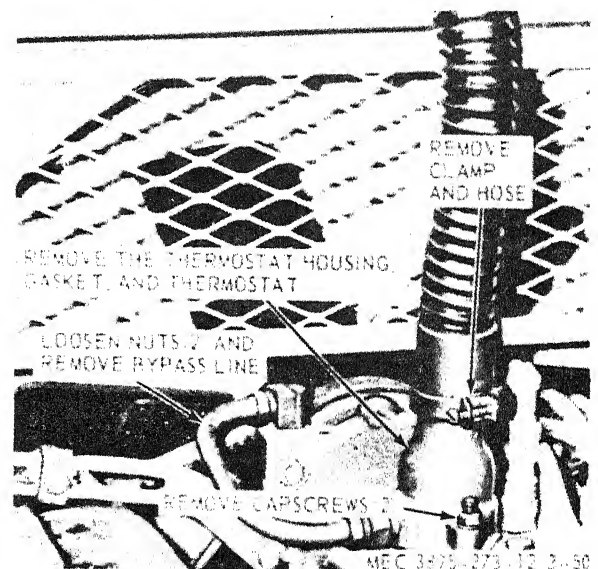
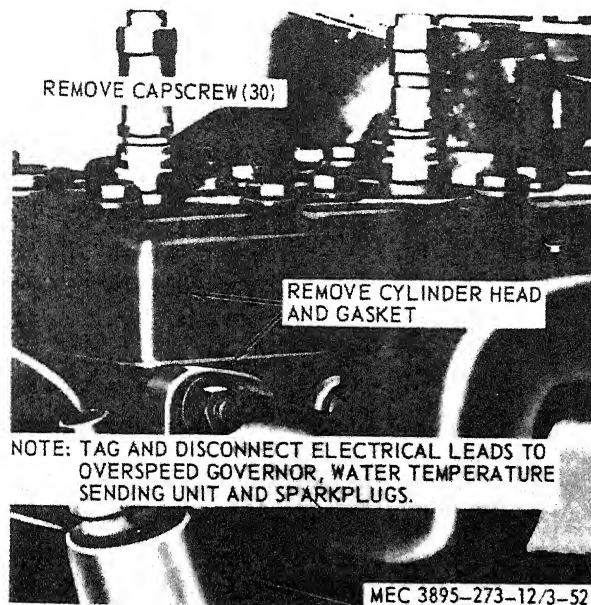

Figure 3-47. Thermostat and thermostat housing, removal and installation.
Figure 3-49. Cylinder head, removal and installation.
a. *Removal.* Remove the thermostat and thermostat housing as instructed on figure 3-47.
- (1) Clean all parts with an approved cleaning solvent.
- (2) Inspect the housing for cracks and defects. Replace defective housing.
- (3) Inspect the thermostat for damage and defects. Test the thermostat by submerging it in a container of water over a suitable heating device. Heat water and check temperature at which the thermostat begins to open. The thermostat should begin to open at 160° F. If the thermostat will not meet these requirements, it must be replaced.
c. *Installation.* Install the thermostat and thermostat housing in reverse of the instructions on figure 3-47.
- (1) Drain the radiator (para 3-75).
- (2) Disconnect upper radiator hose and by-pass tube (figure 3-47).
- (3) Remove oil filter (para 3-72).
- (4) Remove overspeed governor (para 3-67).
- (5) Remove cylinder head as instructed on figure 3-49.
- (1) Use a new head gasket and install the cylinder head in reverse of the instructions on figure 3-49.